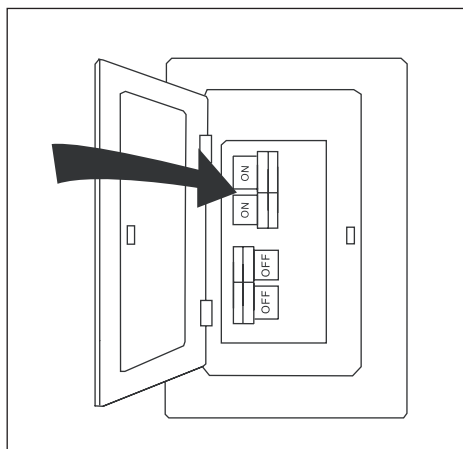

Figure 5.11
11. Turn on power to fan at breaker box and the wall switch (Figure 5.11). Assembly is complete